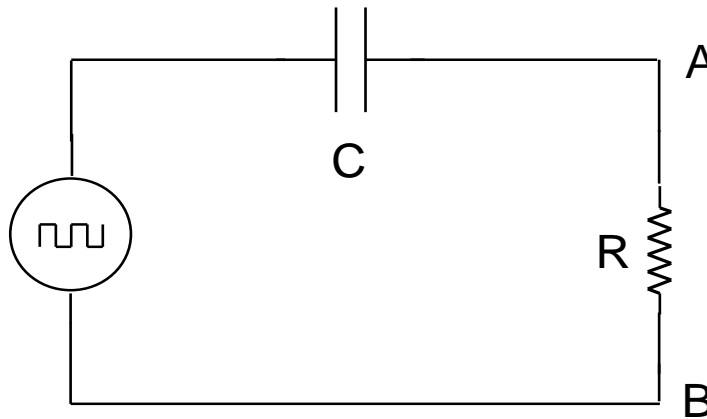

Figure 2
**A2: High-pass filter.** Replace the low-pass filter by a “high-pass filter,” shown in figure 2. Again sweep the frequency from 200 Hz to 2000 Hz. Record your general impressions.